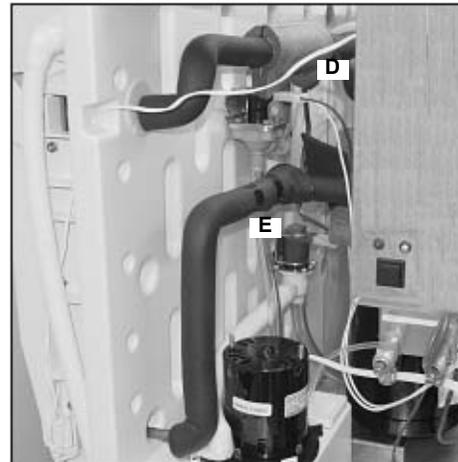

FIGURE 11
8. Disconnect the electrical plug from the Water Fill Valve (D) and Water Dump Valve (E) (FIGURE 11).